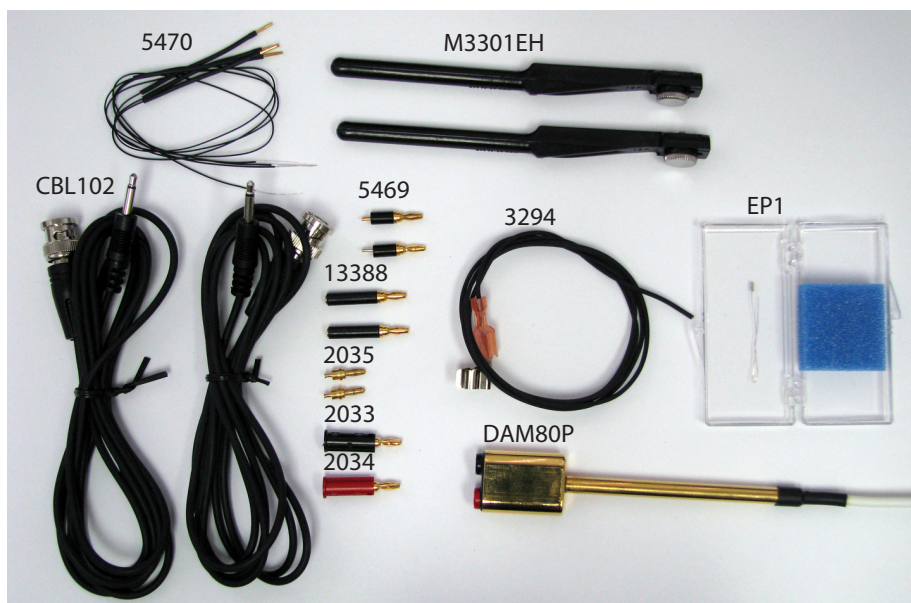

Fig. 2—**DAM80** Startup Kit
- Startup Kit (Pictured in Fig. 2) includes:
- (1) pkg. of four 0.031" to wire Electrode adapters (#**5470**)
- (2) 6-foot, BNC to 3.5mm plug cables (#**CBL102**)